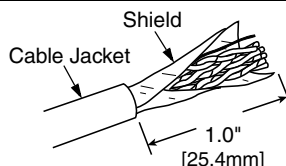

Fig. 1
1. Strip back the cable jacket from the shield and cut away that portion of the cable jacket. Do not cut the shield. The shielded conductors should extend beyond the cable jacket 1.0" [25.4 mm]. (See Fig. 1).